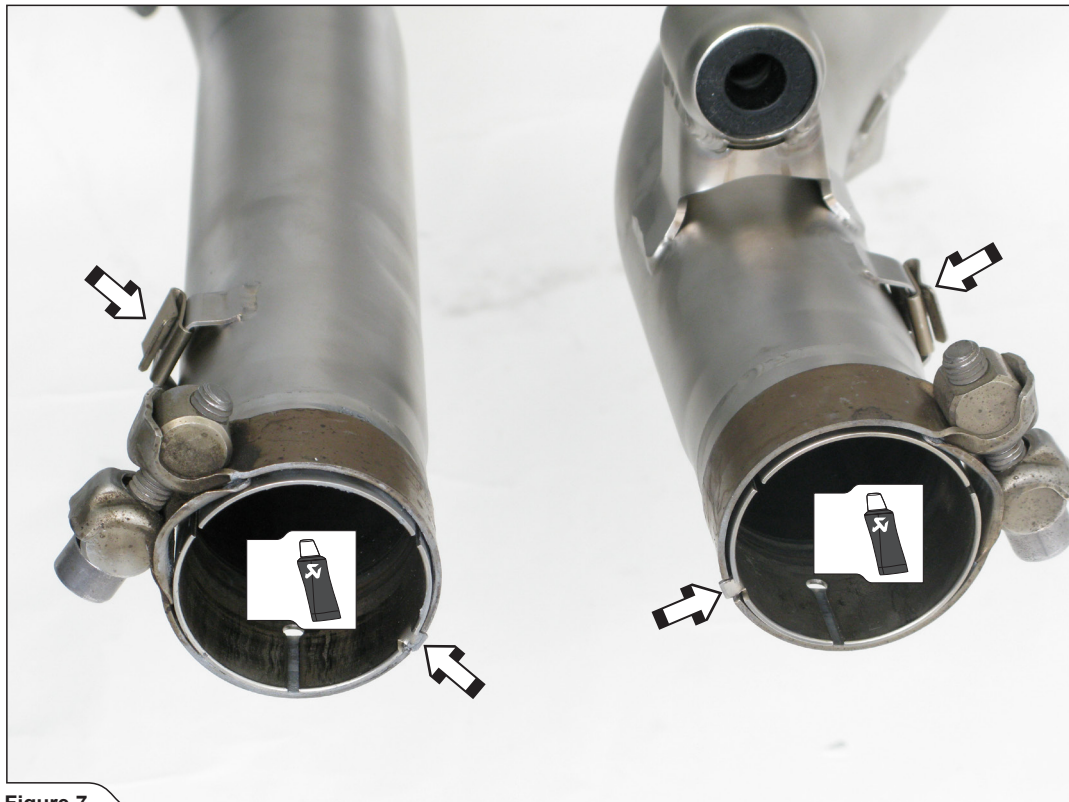

Figure 7
1. Install the original clamps and heat shields' spring clips onto the Akrapovič muffler pipes, as shown (Figure 7).